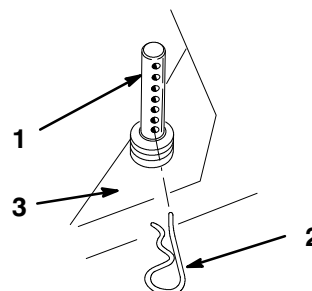

Figure 24
2. Lifting slightly on the deck handles, remove hairpin cotters from the height-of-cut posts and separate mower from carrier frame (Fig. 24).